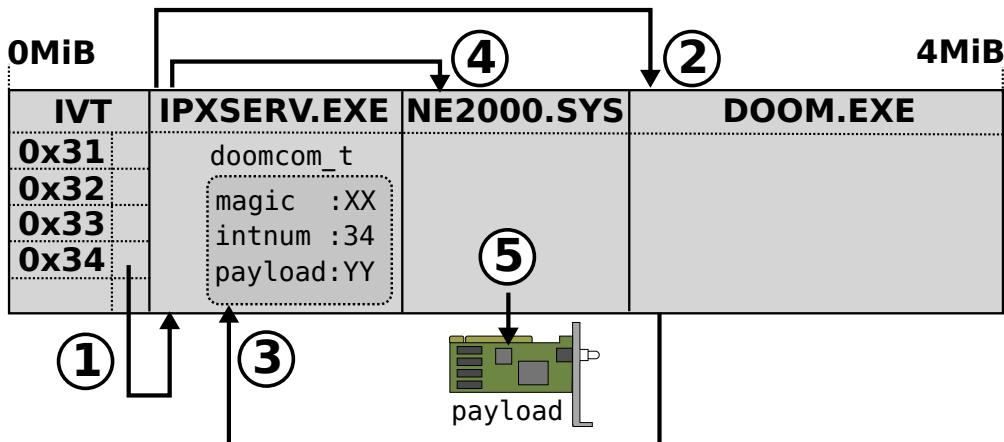

Figure 5.56
Figure 5.56 summarizes the steps. IPXSETUP.EXE is started up first ①. The loader registers itself in the software Interrupt Vector Table. Once registered, IPXSETUP.EXE starts DOOM.EXE and passes the address of its `doomcom_t` variable as an integer ②. Later, during gameplay ③, DOOM.EXE reads/writes to the `doomcom_t` payload field and triggers transfers via the interrupt found in the `intnum` field. This triggers ④ the DOOM network driver to communicate with the network card driver. The actual hardware interaction between the network card driver and the physical network card happens in step ⑤.